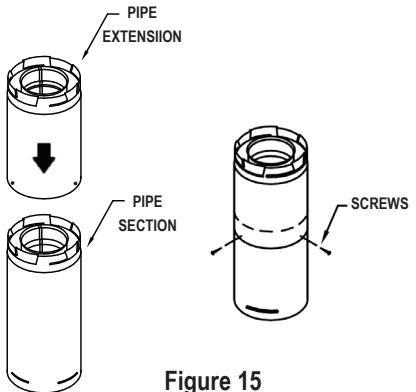

Figure 15
(1) If exact lengths or distances must be met between Elbow offsets or elsewhere, use the Pipe Extensions to adjust onto standard Pipe Sections. When distance of Pipe Extension is set, secure with the 3 self drilling screws provided with Pipe Extension (*Fig. 15*).